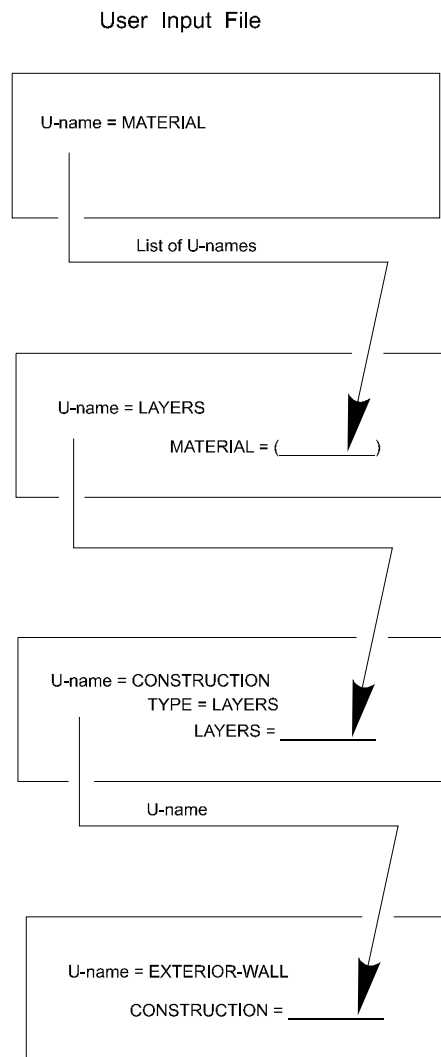

Figure 19 Specifying a "delayed" EXTERIOR-WALL (without a library)
4. Specify each individual material (by THICKNESS, CONDUCTIVITY, DENSITY, and SPECIFIC-HEAT for TYPE = PROPERTIES or by RESISTANCE for TYPE = RESISTANCE) in a MATERIAL instruction (see Figure 19). Then, using TYPE = LAYERS, refer to all the MATERIAL instructions, by a list of their U-names, in the MATERIAL keyword of a LAYERS instruction. Then, refer to the LAYERS instruction, by its U-name, in the LAYERS keyword of a CONSTRUCTION instruction. Finally, refer to the CONSTRUCTION instruction, by its U-name, in the CONSTRUCTION keyword of an EXTERIOR-WALL instruction. This will yield a dynamic, or "delayed", exterior wall. This method allows you to specify unusual constructions.